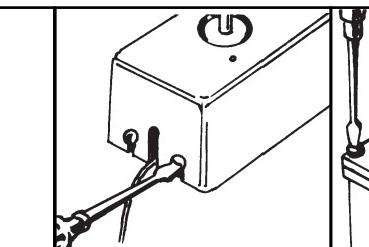

Figure 7
- D. Loosen two screws from end of base plate and remove thermostat cover (see Figure 7).